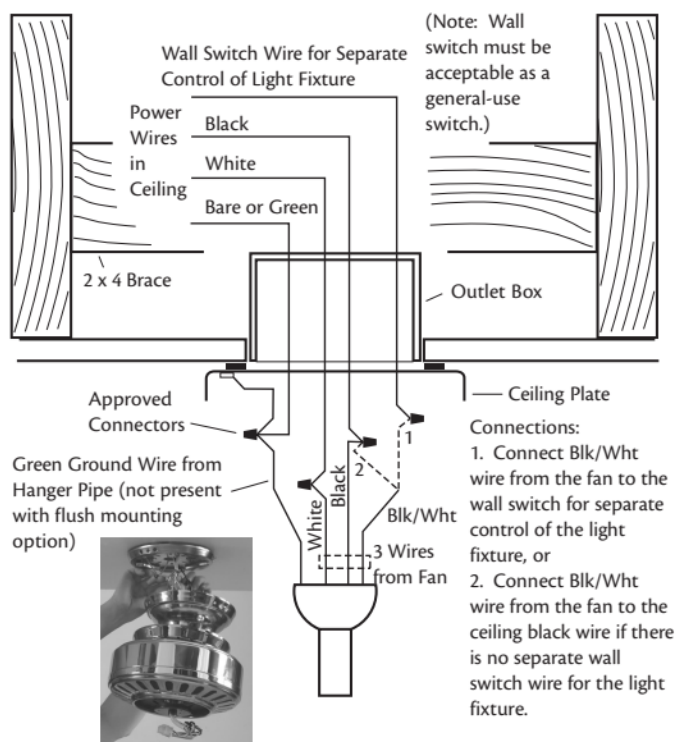

Figure 17 - Wiring the fan
2. You can use either one or two wall switches to control the fan and/or lights separately. Use connection 1, as described in Figure 17, to
Use connection 2, as described in Figure 17, if there is no separate wall switch power wire for the light fixture.
3. Connect the wires as shown in Figure 17. To connect the wires, twist the bare metal leads together. Place a wire nut over the intertwined length of wire and twist clockwise until tight as.